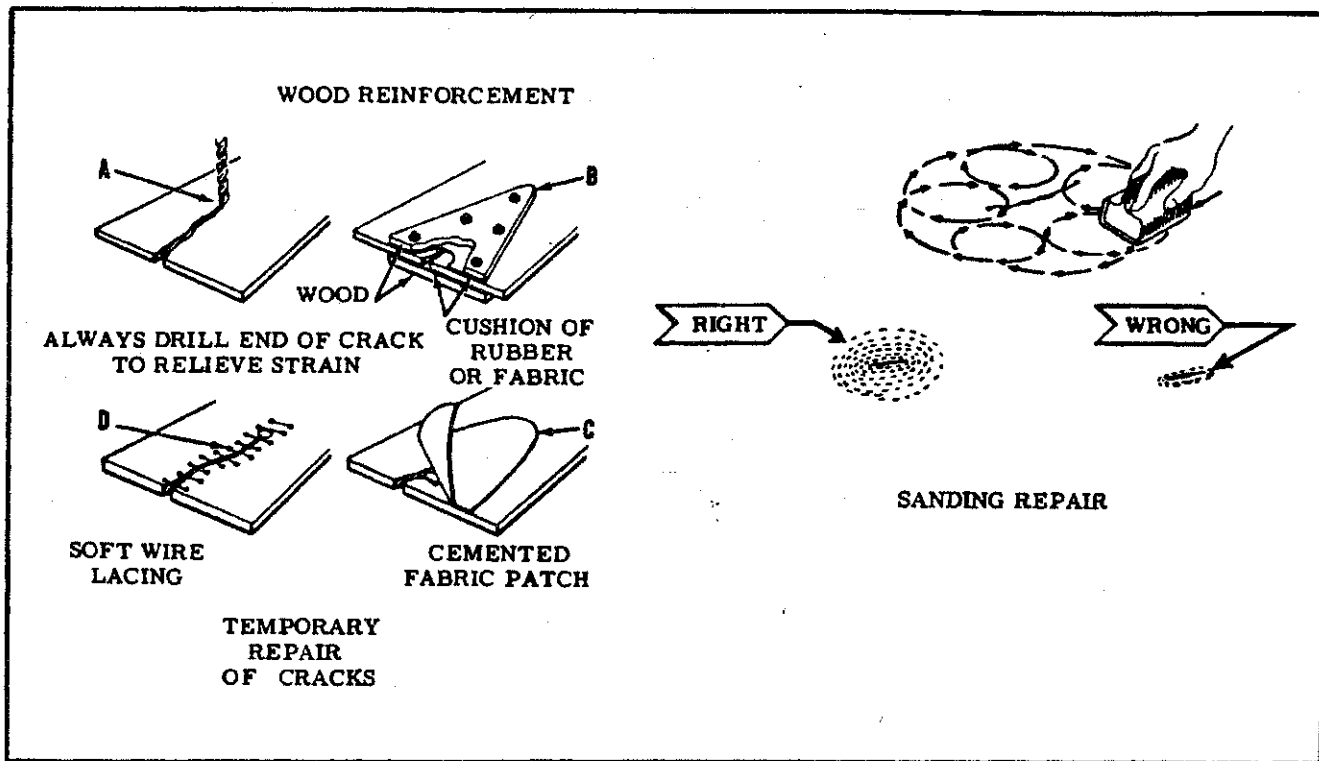

Figure 3-1. Repair of Windshield and Windows
**3-8. CRACKS.** (Refer to figure 3-1.)